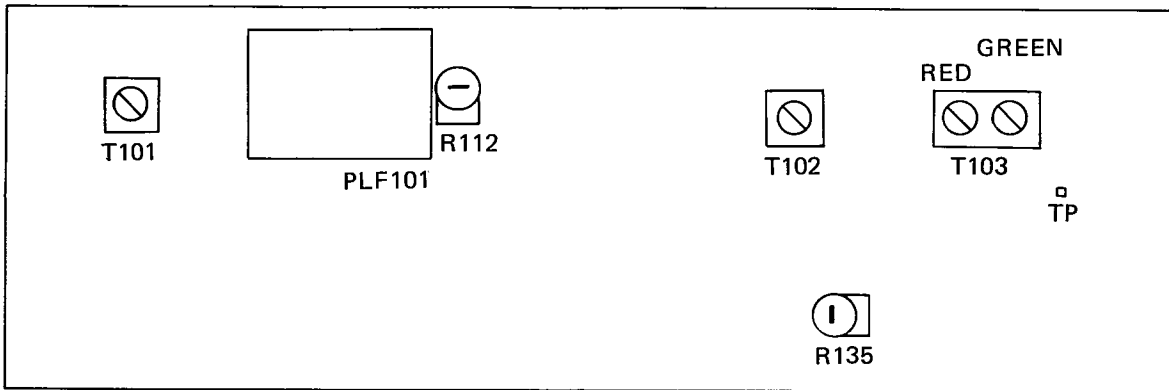

Figure 2. I-F CIRCUIT BOARD (TOP VIEW)
4. Tune the unit for outside of the FM bandwidth, then adjust T102 (Figure 2) until M1 (Center-of-Channel Tuning Meter) indicates mid-scale. Connect DC voltmeter to test point "TP" (Figure 2) and adjust T103 (green core) (Figure 2) for 0 ± 50 millivolts.
6. Attenuate generator output for 60 dB and set IF BAND switch to "WIDE" position. Adjust T103 (red core, Figure 2) for minimum distortion. If M1 does not indicate mid-scale, repeat steps 3, 4 and 5.
7. Adjust R135 (Figure 2) until M1 indicates a " 4.5 ± 0.3 " meter reading.
10. Set IF BAND switch to "WIDE" position and set generator for a stereo signal (L or R). Adjust R112 (Figure 2) for minimum distortion.